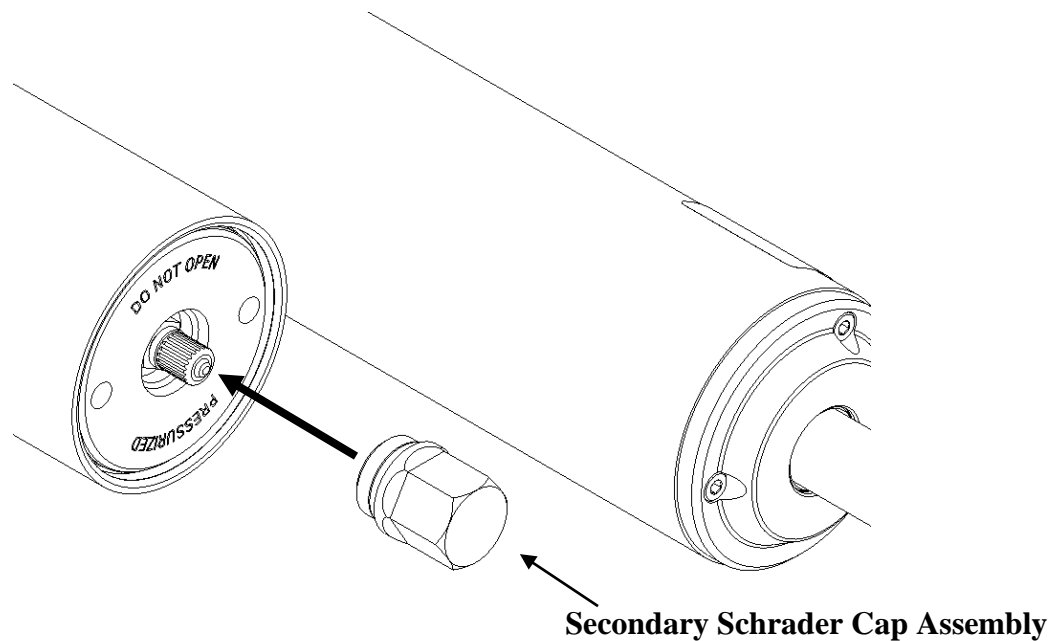

Figure 5
- D. Take the secondary schrader cap assembly provided and screw it into the bottom reservoir cap for both sides as shown in Figure 5. Torque it to 13 lb•ft (17.5 N•m).